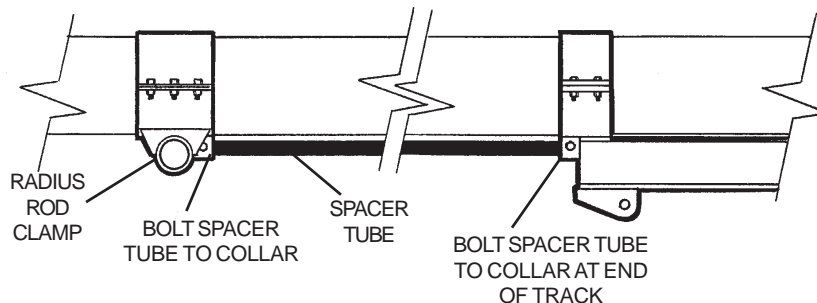

FIG. 14
2. Fasten spacer tube to collar at lower end of track with one 5/16" x 1-3/4" long (grade 5) hex head capscrew and nylon locknut. See Fig. 14.